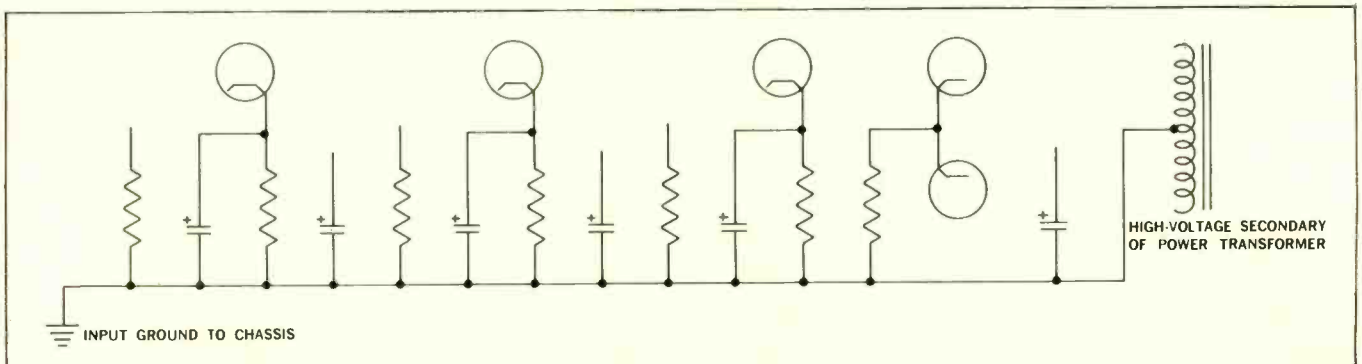

Fig. 1—The arrangement of a ground bus in a traditional tube amplifier.
■ It seems like quite a long time ago since some of us have serviced traditional tube circuits, but many of these audio amplifiers are still around and encountered more frequently by some technicians than the rest of us. For these amplifiers, ground was always predictable—the negative side of the high-voltage supply. In a good tube amplifier the chassis ground would generally be connected at the signal input while the negative output of the power supply was connected to the opposite end of the ground bus—by the output stage (Fig. 1).